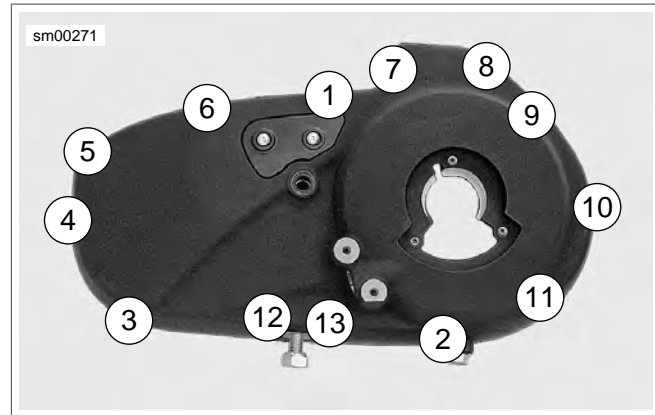

Figure 5-5. Primary Cover Tightening Sequence (Typical)
4. See Figure 5-5. Tighten fasteners to 100-120 in-lbs (11.3-13.5 Nm) in sequence shown.